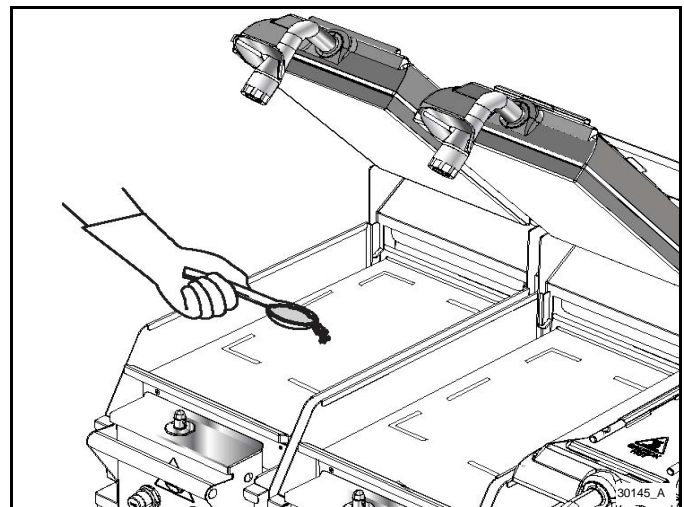

Figure-35
3. Using a sundae spoon, distribute two level spoonfuls of soy adhesion flakes over one warm 12 in. (305 mm) cook zone, and allow the flakes to melt. See Figure-35.